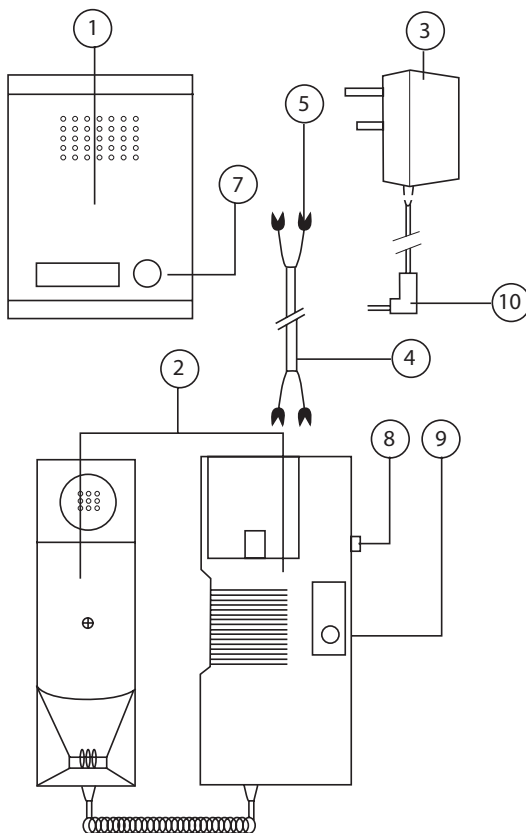
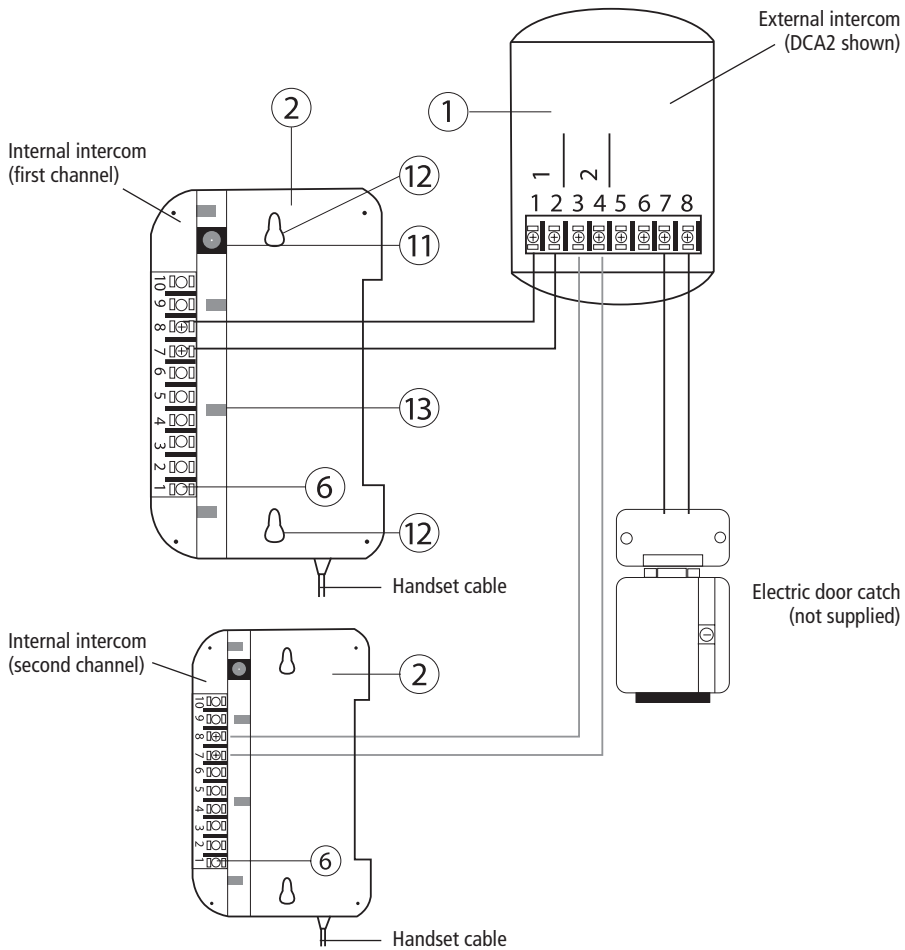

Fig 1
Fig 2
- iv Make the necessary wire terminations (see fig 2) and offer the external intercom up to the back box. Tighten the fixing screws as indicated (fig 4, iii).
Mark out two holes suitable for No. 8 roundhead screws 164mm vertically apart at the required location on the wall (refer to section 3.1 and fig 2). Drill and plug the holes if necessary then screw the screws home leaving 5mm of the shank exposed (see fig 6) to enable keyhole fixing points to slide behind the screws.
Connect the two core lead from the external intercom according to fig 2. Plug the mains adaptor low voltage plug (see fig 1) into the mains adaptor socket (see fig 2). Arrange the two cables in the cable channel on the back of the internal intercom. Finally locate the internal intercom mounting holes on the two fixing screws, and slide the intercom downwards.
Press the ring button (fig 1, 7) at the external intercom – a buzz will be heard locally and a ring tone will be heard at the internal intercom unit for 2 to 3 rings.
Finally, if a door catch is fitted, the door open button (fig 1, 9) should be pressed and the door can be opened.
It is possible to adjust the ringtone volume with the slide switch (fig 1, 8) on the side of the internal intercom.